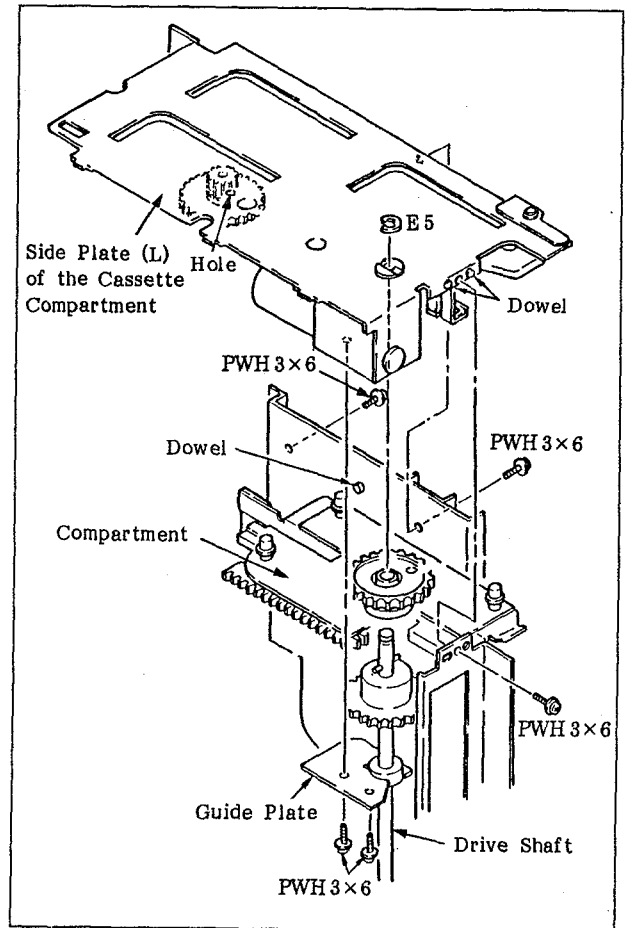

Fig. 6-26 Replacement of Gear A (left side)
2. Turn the drive wheel by a hand so that the slot of gear A shown in Figure 6-27 can be seen through the hole of the side plate of the cassette compartment shown in Figure 6-26.